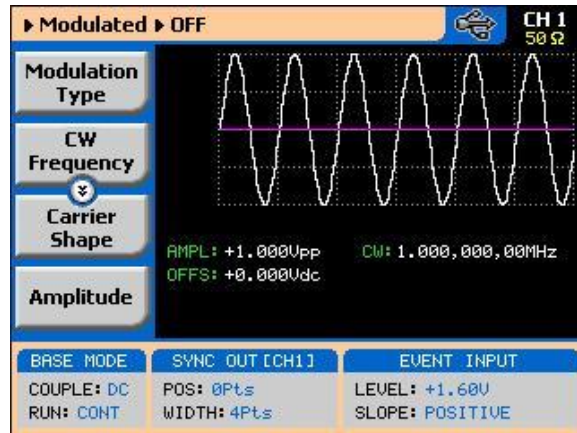

Figure 3-31: Modulation OFF Parameters
The Modulation Off is a special instance of the modulation function, where the output is not modulated, but generates carrier waveform (CW) frequency only. CW can be sine, triangle, or square waveforms. When placed in Modulation Off, the CW is generated from the main outputs continuously. The CW parameter does not change when you switch from one modulation function to another. *Figure 3-31* shows the Modulation Off menus.